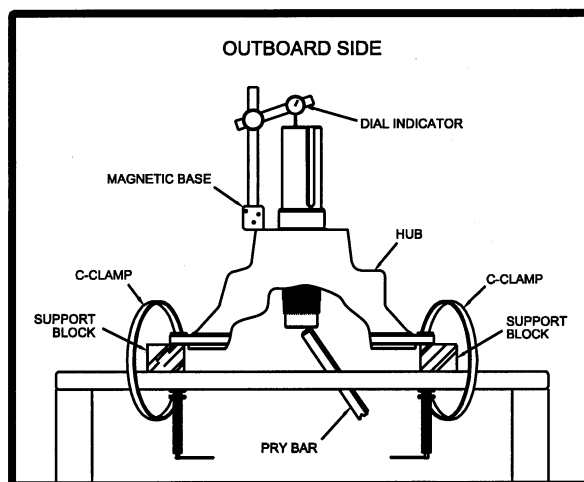

Figure 6.4.1 Setting Axial Bearing Clearance
18. Support hub and affix to work table with the shaft not touching the table (reference Figure 6.4.1).
1. Support housing to allow the shaft to rotate freely (reference Figure 6.4.1).
2. Affix the hub to the support table with C-Clamps or bolting to table (reference Figure 6.4.1).
5. Affix the magnetic base of the dial indicator to a flat area of the housing (reference Figure 6.4.1).
8. With a pry bar, push the inboard end of the shaft up (reference Figure 6.4.1).